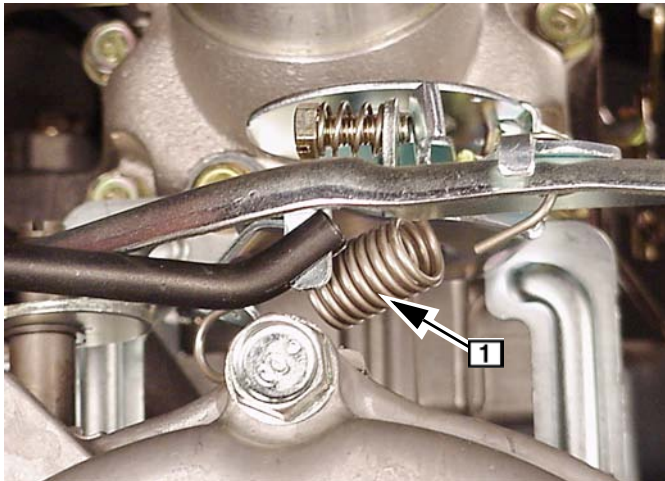

Fig. 191
10. With equipment control lever in “SLOW” position and engine running at governed idle RPM, use tang bender, Tool #19480, and bend throttle restrictor tang **1** so that tang just contacts governor lever, Fig. 191.